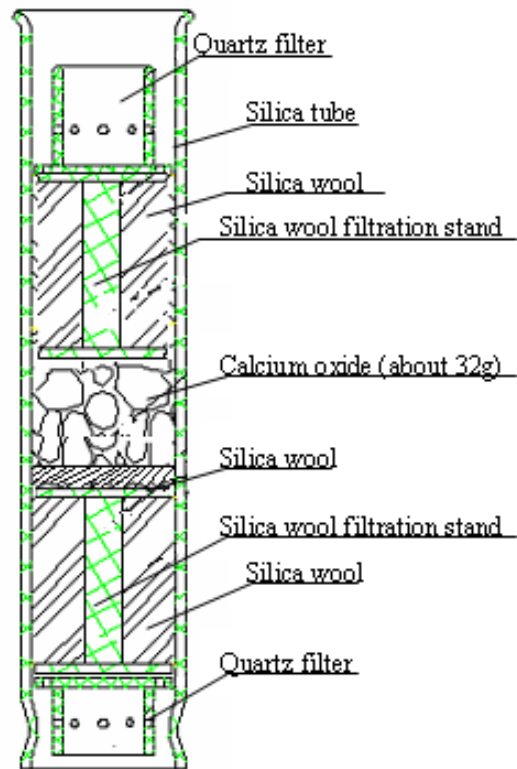

Fig. 3-1 Placement of Silica Tube and Reagents of Reagent Furnace
- a. Take three silica tubes(see Fig. 3-1, Fig. 3-1, and 3-3), clean them with alcohol and then make them dry;
3. Placement and dosage of the reagent, and installation of the silica tube in the combustion furnace and installation of the manipulator (see Fig.3-1):